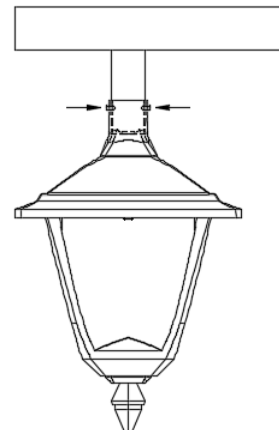

Fig.8
3. Install the fixture on the light pole and tighten 2 screws, as shown in Fig.8.